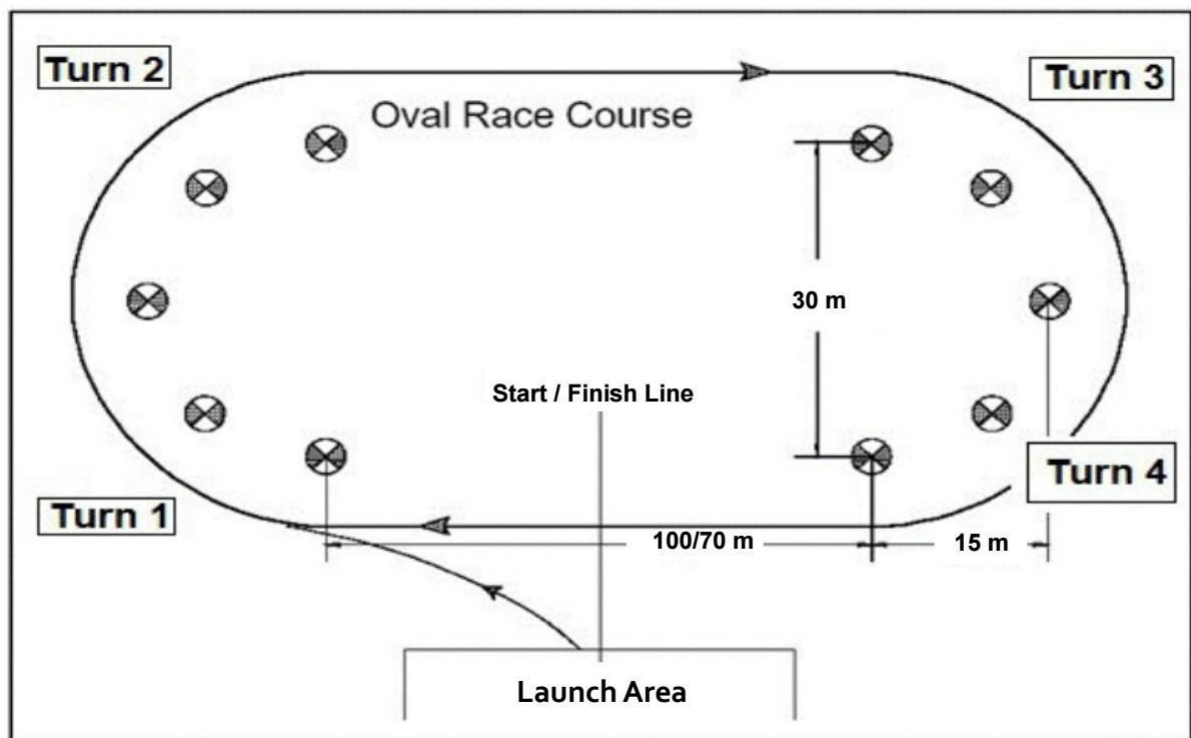

Figure 5: Oval racing course
5. Boats must proceed around the buoys as above in Figure 5 to the start/finish line to begin the race.
3. The Oval racing course in Figure 5 will be used, EITHER 100 m or 70 m straights can be used depending on what the venue can safely accommodate.